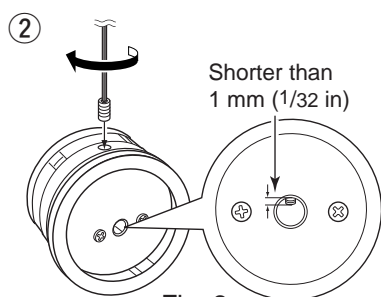

Fig. 2
- ② Insert the main dial set-screw into the screw hole of the main dial, then tighten the screw until the screw extends into the shaft hole out slightly using supplied hexagonal wrench (2 mm) (Fig. 2).